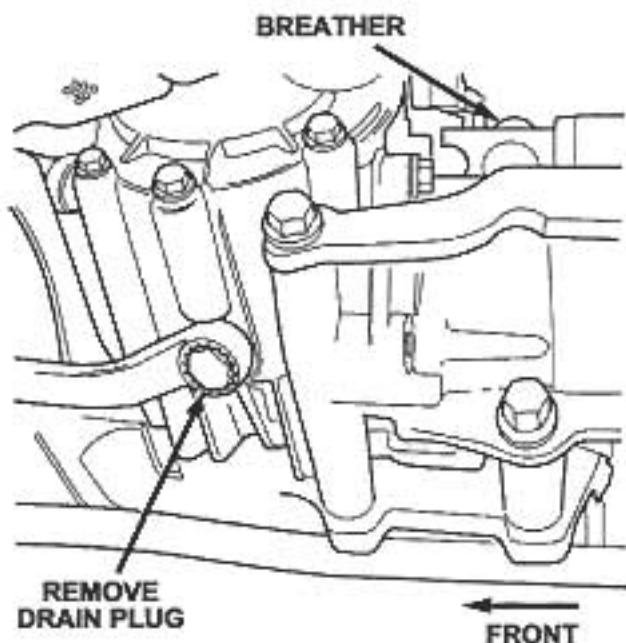

Figure 25
2. Remove the transfer case drain plug (Figure 25) and drain the fluid from the transfer case.